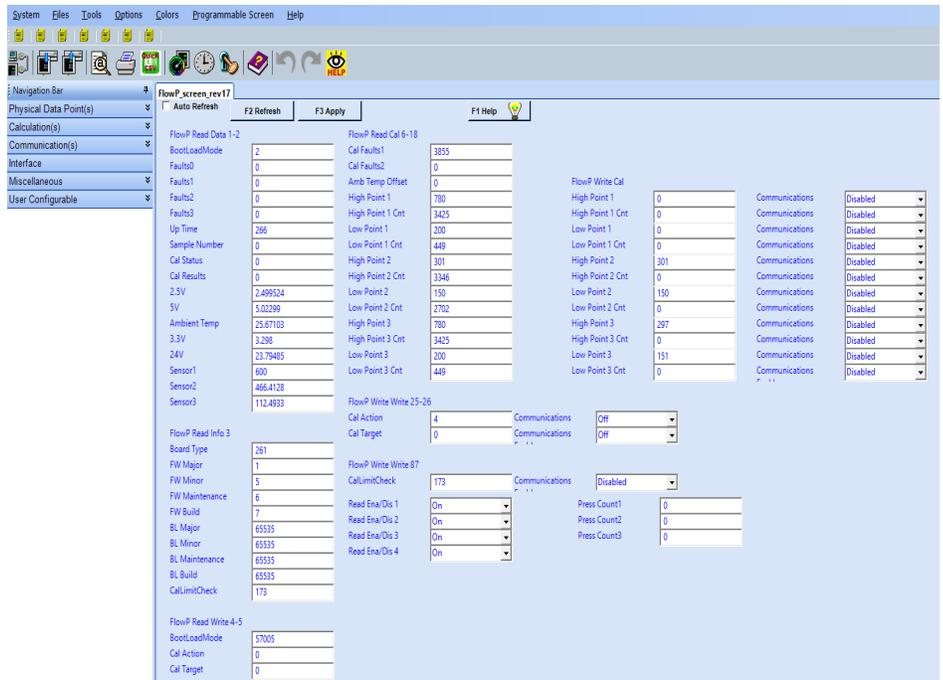

Figure 4-4. FlowP screen revXX Pre-Configured Screen
4. FlowP_screen_revXX (Figure 4-4)